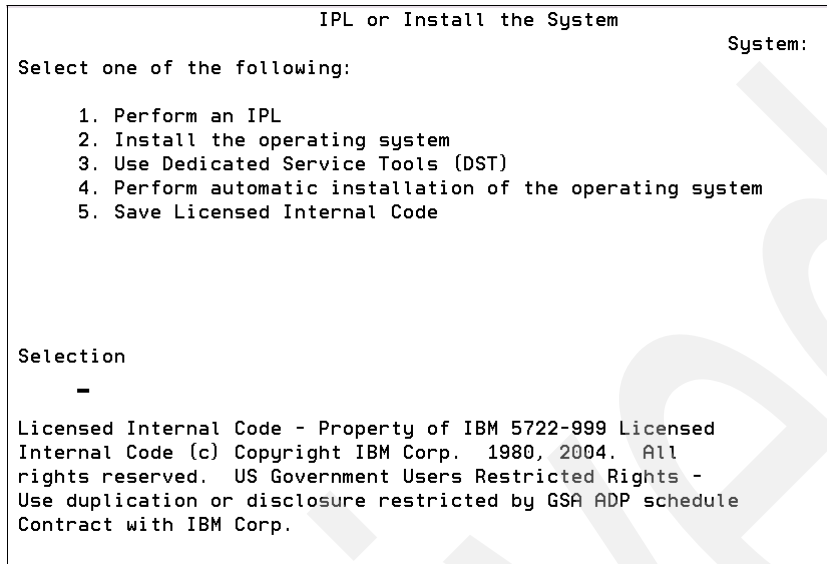

Figure 3-25 The IPL or Install the System screen
- a. On the IPL or the Install the System screen (Figure 3-25), enter 3 (Use dedicated Service Tools).